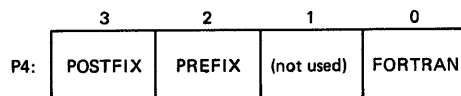

Figure 2-5 P4 Carriage Control Specifier
**2.4.2.2 Write Function Carriage Control - The P4 argument is a longword that specifies carriage control. Carriage control determines the next printing position on the terminal. P4 is ignored in a write physical block operation. Figure 2-5 shows the P4 longword format.**